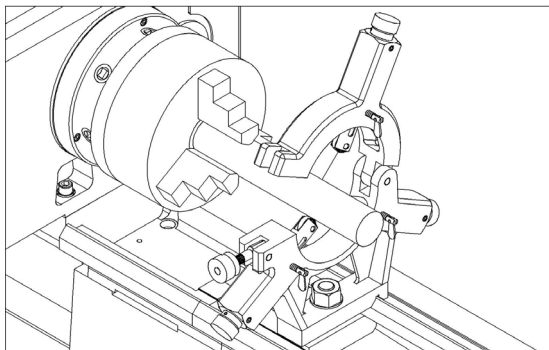

Figure 36. Workpiece mounted in the steady rest.
4. Loosen the lock knob and open the steady rest so the workpiece can rest on the bottom two finger rollers, as shown in Figure 36.